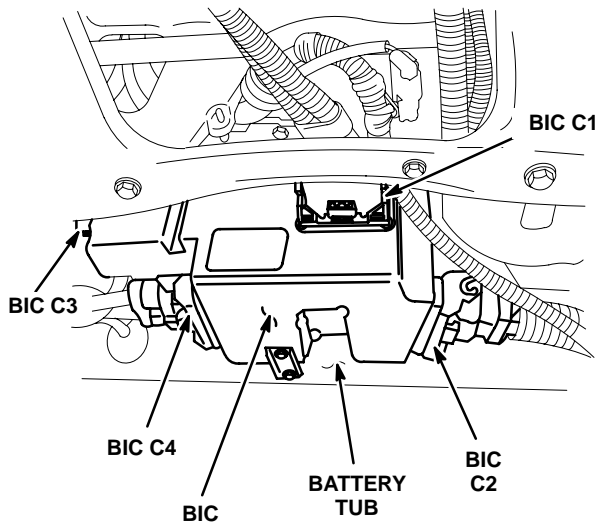

Fig. 16 BIC Connectors
(4) Remove electrical connectors (4) at BIC (fig.16).